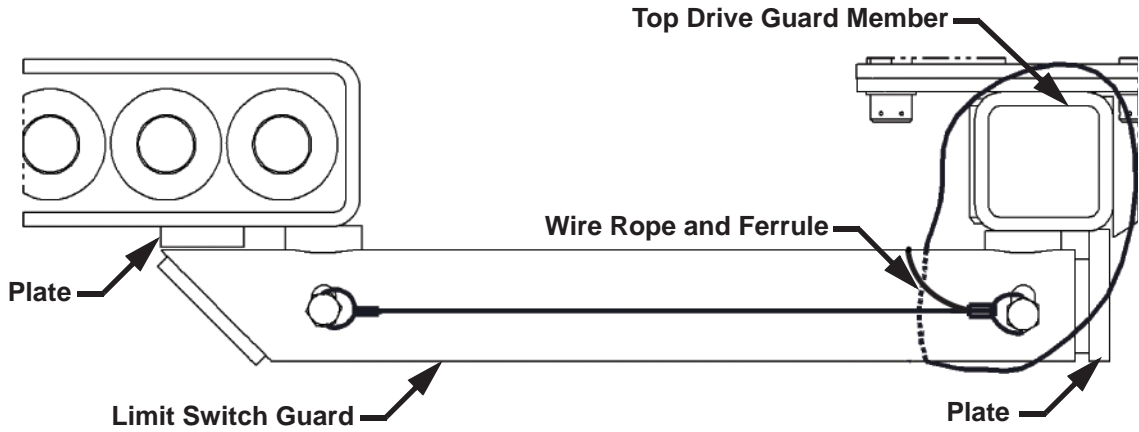
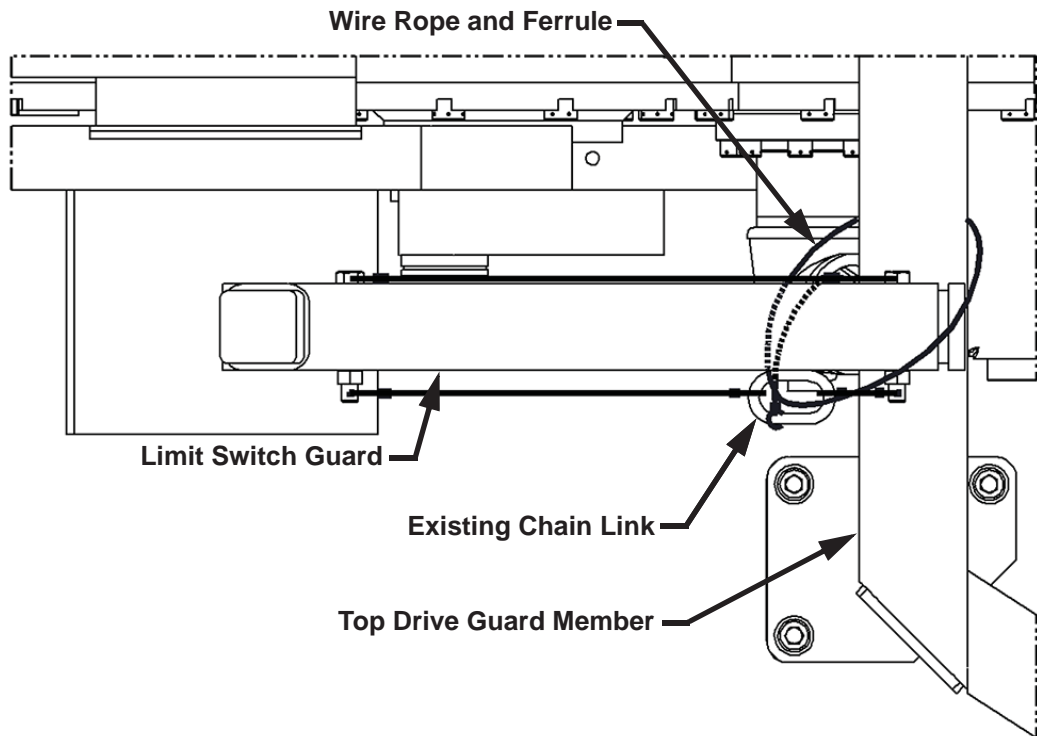

Figure 4: Top View
Figure 5: Front View
- Route safety wire from one limit switch guard bolt head to the other one and then route the wire to connect to the existing chain link. See Figure 4 and Figure 5 on page 3.
- To secure the bolt ends, drill a 1/8" hole at the bolt end and route safety wire from the end of each bolt to the existing chain link. See Figure 5 on page 3.
4. Route safety wire around the top drive guard member and through the chain link as shown in Figure 4 and Figure 5.